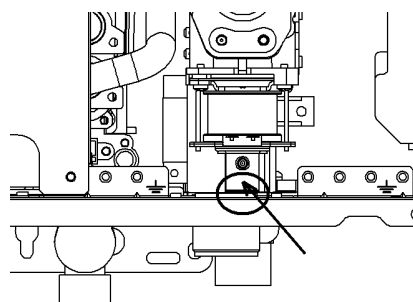

Fig. 4
12. Remove rubber access plug and adjust the regulator screw on the modulating valve (Fig. 4) as required to the pressure above. Replace rubber access plug and seal it shut.